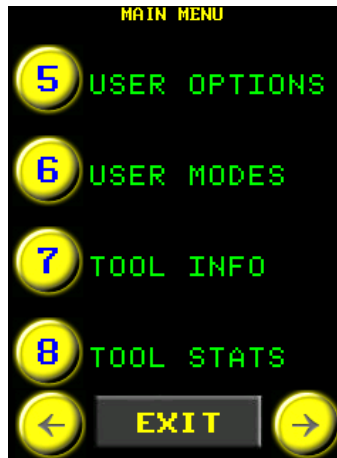

Figure 5.15-1: Main Menu
2. Select **"User Options"** from the Main Menu (Figure 5.15-1).